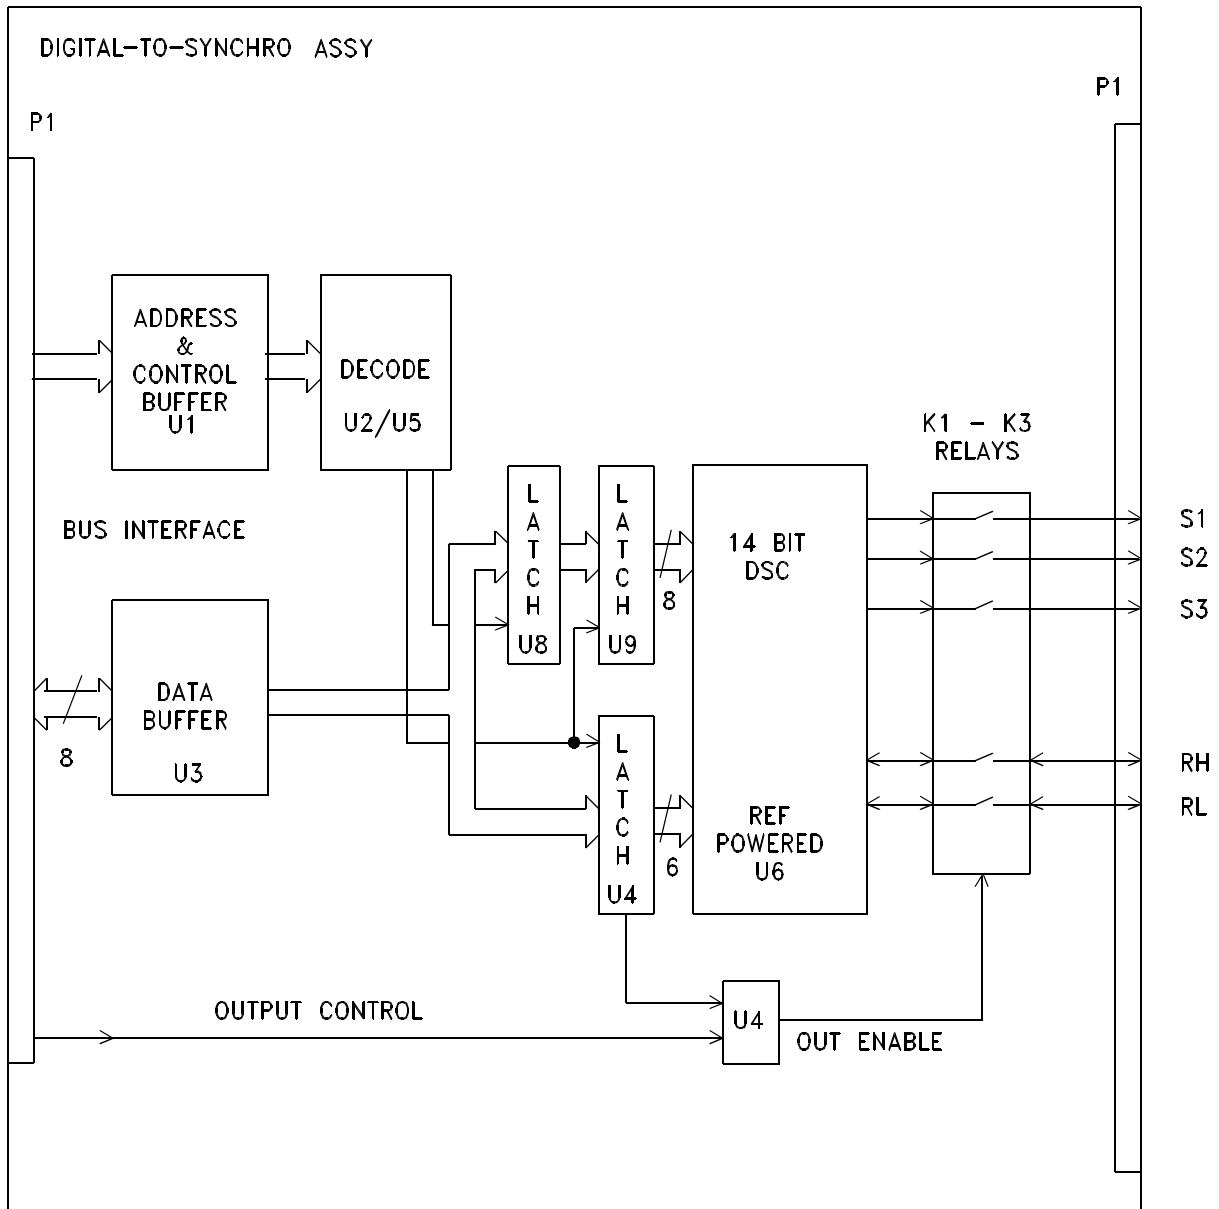

Figure 3-16. Digital-To-Synchro Assembly Functional Diagram
**3-4.2.11 Digital-To-Synchro Assembly (Optional Equipment).** The Digital-To-Synchro Assembly (see Figure 3-16) converts digital azimuth data to 1X synchro format for 1X synchro repeaters or other applications that require a 1X synchro output. The Digital-To-Synchro Assembly converts 14 data bits to 90 volt line-to-line synchro data using 115 VAC at 400 Hz as a reference. The output stage uses power from the reference input and is rated at 4 VA. This reduces the load requirements on the internal MK 37 VT power DC-DC converter. The Digital-To-Synchro Assembly only uses about 25 mA each from the  $\pm 15$  volts available through the backplane supply.